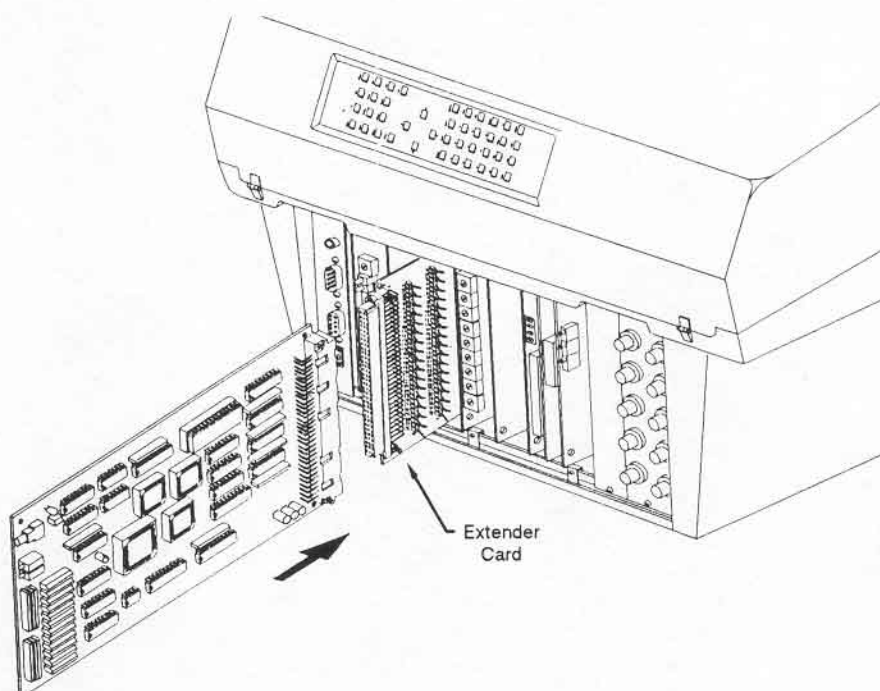

Figure 3-4. Extender Card Use
- d) Slide the extender card into the card slot until it is firmly seated then plug the module into the extender card as shown in Figure 3-4.